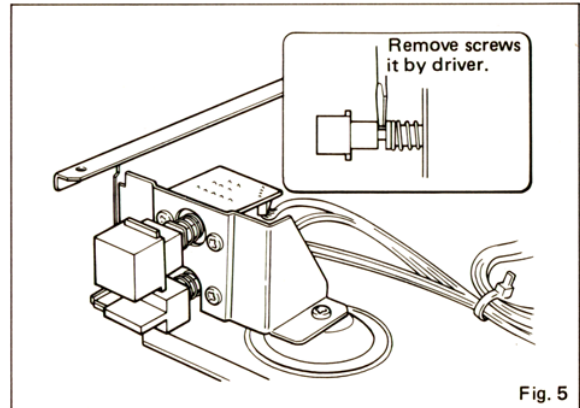

Fig. 5
- 1) Detach the transformer's lead wires connected to the tuner circuit board (1).
- 2) Remove the POWER and TUNING MODE buttons by using a  $\ominus$  driver or the like as shown in Fig. 5.